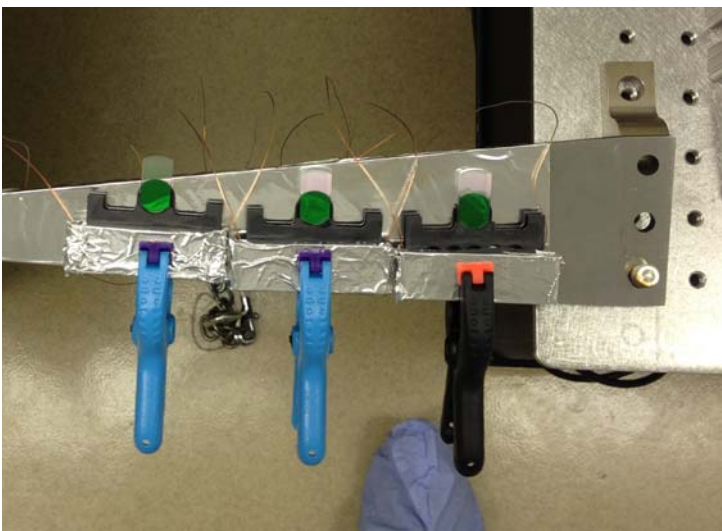

Figure 2. Mirrors placed into the Bobbins. Note that the blade spring is angled.
15. Apply epoxy to the Bobbin and/or mirror to bond it to the Bobbin. Only a small amount of epoxy is needed for the backside of the mirror since both surfaces are flat. More epoxy is needed at the bottom of the mirror when it is bonded to the coil wires. Only a very small amount of epoxy is needed for the HR side of the mirror since only a small area of this side is bonded to the Bobbin. Place the mirror into the Bobbin and visually align the mirror to be centered and perpendicular. Be very careful not to get epoxy on the HR surface. Carefully use clean acetone and lens tissue to remove epoxy from the HR surface if needed. See Figure 2.